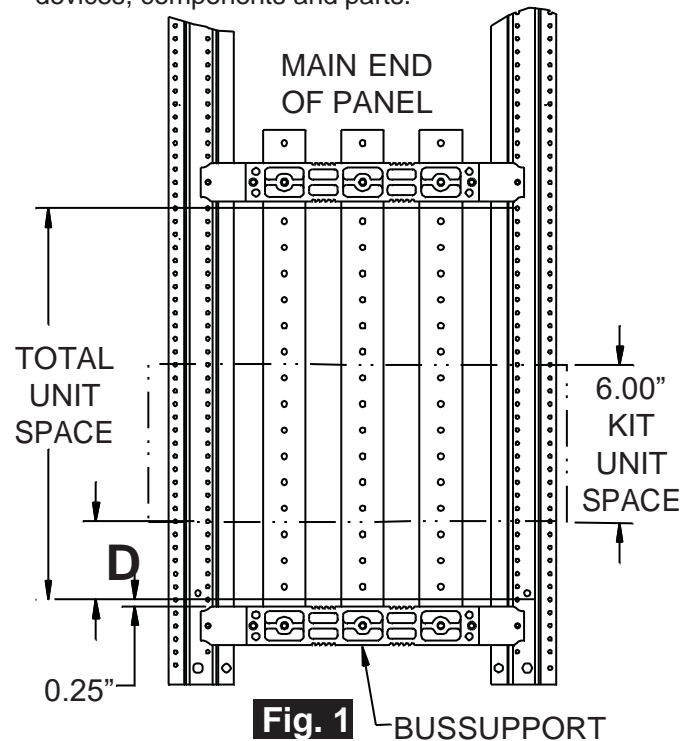

Fig. 1 BUSSUPPORT
3. This kit requires 6" of unit space. Determine the location where the kit is to be installed. The kit locating dimension **D** in Figure 1 must be a multiple of 3" (0", 3", 6", 9", etc.). This measurement can be taken directly from a neutral barrier if present, or from a bus support in panels without a neutral. Note that 0.25" must be added to dimension **D** when taking measurements from the bus support (0.25", 3.25", 6.25", 9.25", etc.). (Refer to Fig. 1)